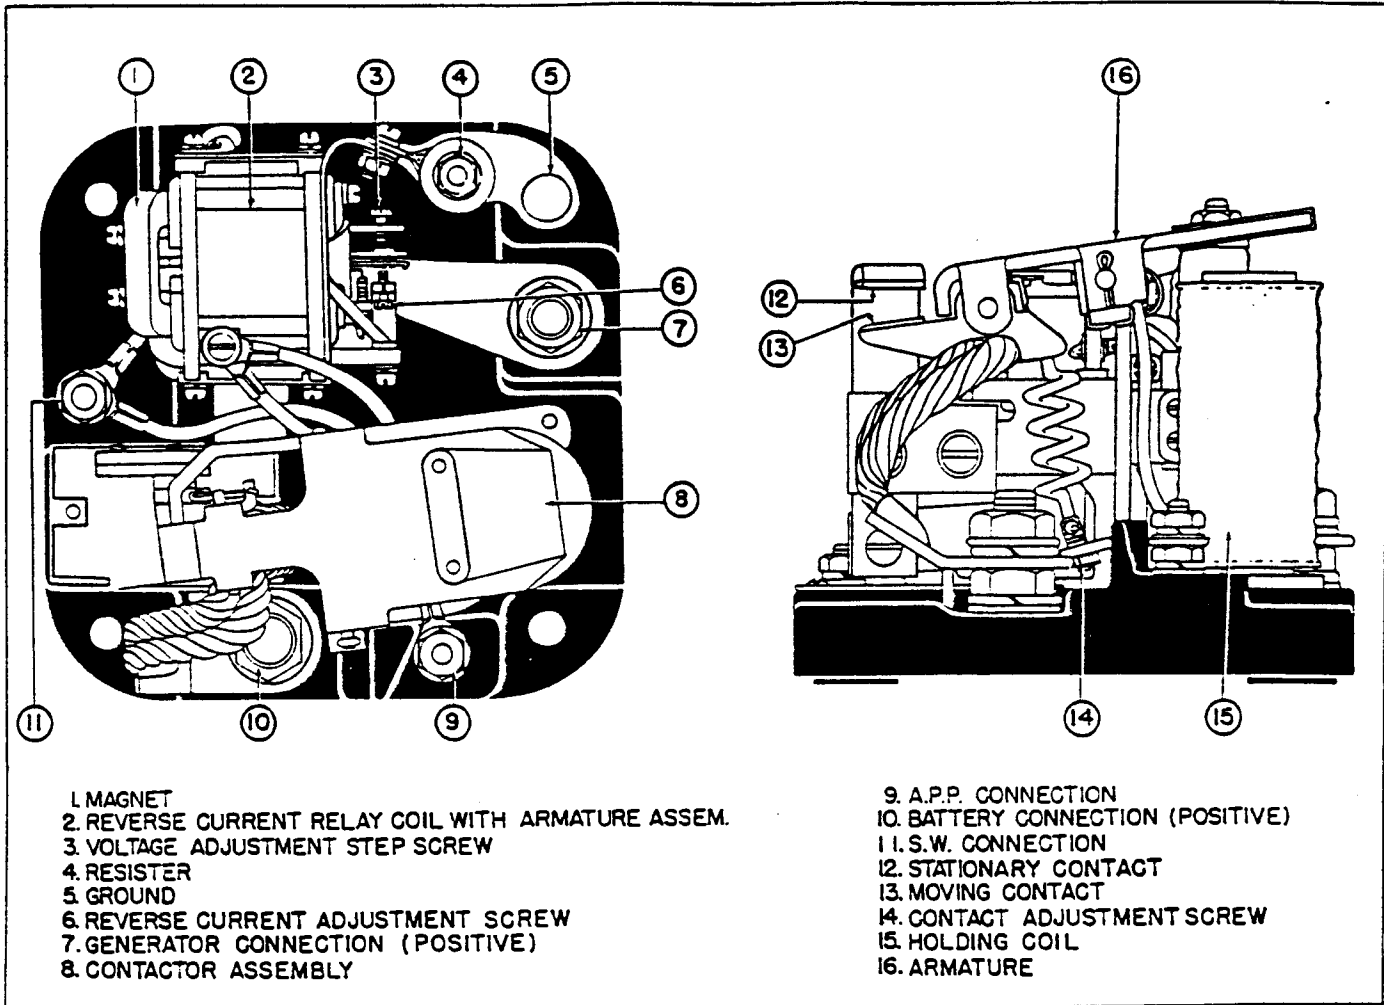

Figure 10. Reverse Current Relay
2. MAINTENANCE. (Refer to figure 10.)
f. RELAY PICK-UP VOLTAGE ADJUSTMENT.- To make a slight change in pick-up voltage, adjust the stop screw (Figure 10). Screwing the stop screw inward lowers the pick-up voltage. Screwing the hexhead contact screw inward (Figure 10) lowers the reverse-current setting. After the adjustment is made, check the gap between the contacts. It must be at least 0.010 inch. In addition there must be a clearance of 0.006 to 0.010 inch inside of the U-shaped contact spring, allowing that much contact deflection before the contact becomes solid. The restraining clip hooked over the end of the contact spring must not actually touch the spring, but should clear by 0.010 to 0.015 inch. It may be adjusted by careful use of small needle-nosed pliers or tweezers. If contact gap is less than .010 inch, back out the stop screw a quarter turn and weaken the spring adjustment slightly to compensate and obtain the same voltage setting. Raise the voltage slowly while watching the relay contact.